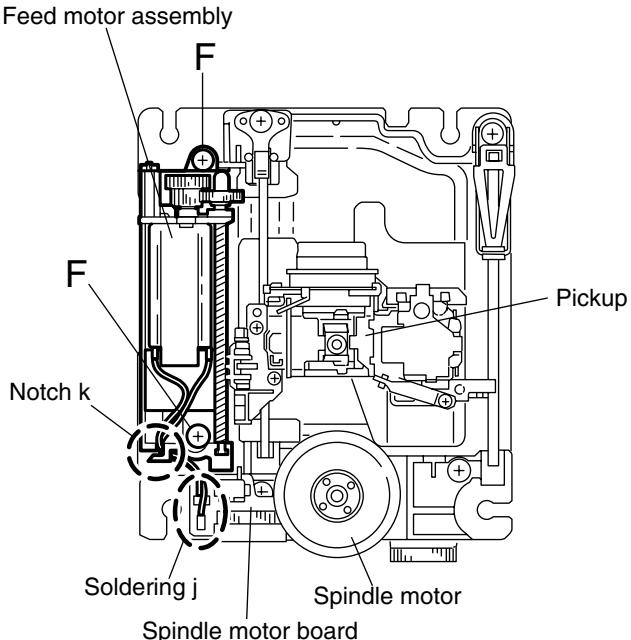

Fig.13
■ Removing the feed motor assembly (See Fig.13)
(See Fig.13 to 15)
ATTENTION: When reattaching, pass the two cables extending from the feed motor through the notch **k** of the feed holder as shown in Fig.13.